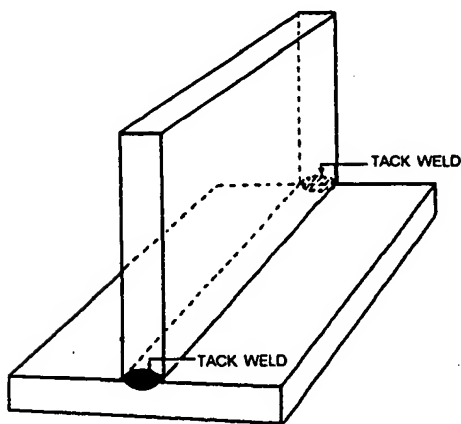

Figure 7-25.—Tack-weld to hold the tee joint elements in place.
**TEE JOINTS.**— When you make tee joints in the horizontal position, the two plates are at right angles to each other in the form of an inverted T. The edge of the vertical plate may be tack-welded to the surface of the horizontal plate, as shown in figure 7-25.